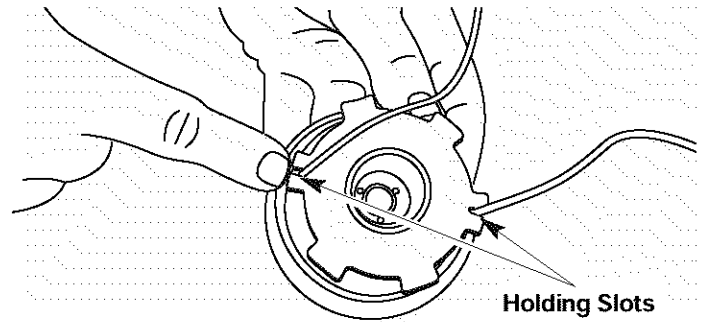

Fig. 23
12. Insert the ends of the line into the two holding slots (Fig. 23).